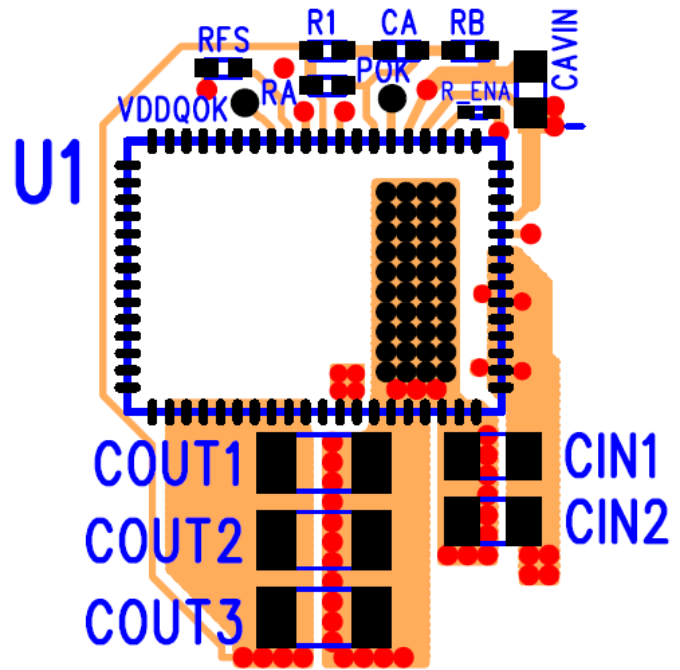
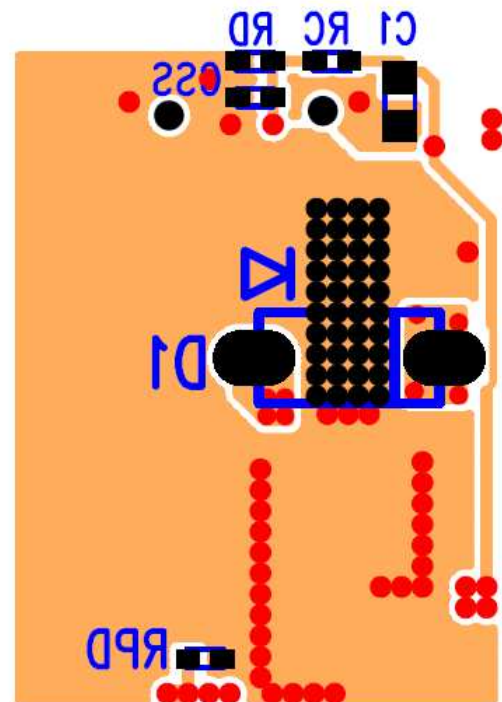

Figure 8: Top PCB Layer with Critical Components and Copper for Minimum Footprint (Top View)
Figure 9: Bottom PCB Layer with Critical Components and Copper for Minimum Footprint (Top View)
Figure 8 and Figure 9 shows critical components along with top and bottom traces of a recommended minimum footprint of the EV1380QI layout with ENABLE tied to  $V_{IN}$ . Alternate ENABLE configurations and other small signal pins need to be connected and routed according to specific customer application. Please see the Gerber files at [www.altera.com/enpirion](http://www.altera.com/enpirion) for exact dimensions and other layers. Please refer to Figures 8 and 9 while reading the layout recommendations in this section.
The drill diameter of the vias should be 0.33mm, and the vias must have at least 1 oz. copper plating on the inside wall, making the finished hole size around 0.20-0.26mm. Do not use thermal reliefs or spokes to connect the vias to the ground plane. This connection provides the path for heat dissipation from the converter. Please see Figures 8, 9, 10, and 11.
**Recommendation 5:** Multiple small vias (the same size as the thermal vias discussed in recommendation 4) should be used to connect ground terminal of the input capacitor and output capacitors to the system ground plane. It is preferred to put these vias under the capacitors along the edge of the GND copper closest to the +V copper. Please see Figure 8 and Figure 9. These vias connect the input/output filter capacitors to the GND plane and help reduce parasitic inductances in the input and output current loops. If the vias cannot be placed under  $C_{IN}$  and  $C_{OUT}$ , then put them just outside the capacitors along the GND slit separating the two components. Do not use thermal reliefs or spokes to connect these vias to the ground plane.
**Recommendation 6:** AVIN1 and AVIN2 are the power supplies for the internal small-signal control circuits. AVIN1 and AVIN2 should be powered by an external supply. In Figure 8, the filter capacitor  $C_{AVIN}$  is connected closely from the AVIN1 and AVIN2 pins to AGND for proper filtering of the control circuit.
**Recommendation 7:** The layer 1 metal under the device must not be more than shown in Figure 8. See the section regarding exposed metal on bottom of package. As with any switch-mode DC/DC converter, try not to run sensitive signal or control lines underneath the converter package on other layers.
**Recommendation 9:** Keep  $R_A$ ,  $C_A$ , R1 and  $R_B$  close to the VFB pin (see Figure 8). The VFB pin is a high-impedance, sensitive node. Keep the trace to this pin as short as possible.
**Recommendation 12:** The Schottky diode D1 should be connected with anode to SW and cathode to VDDQ with very low inductance traces. Place D1 directly under the device as shown in Figure 9. Vias near SW and VDDQ connect these pins to the D1 terminals. The recommended diode for this layout is ST Microelectronics TMBYV10-40FILM. Contact Power Applications support for alternate options for this diode.